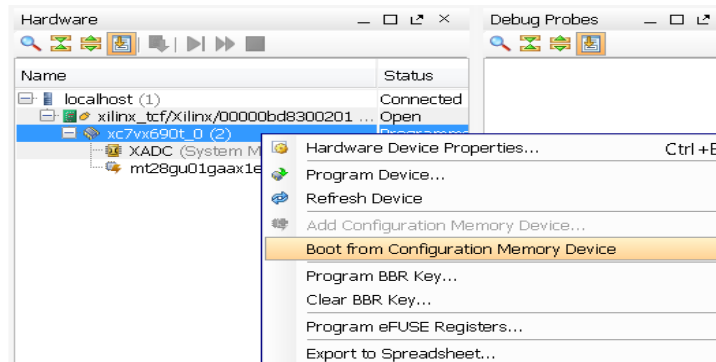

Figure A-12: Select Boot Device
14. After the memory has been configured, right-click the FPGA device and select **Boot Device** (see Figure A-12).